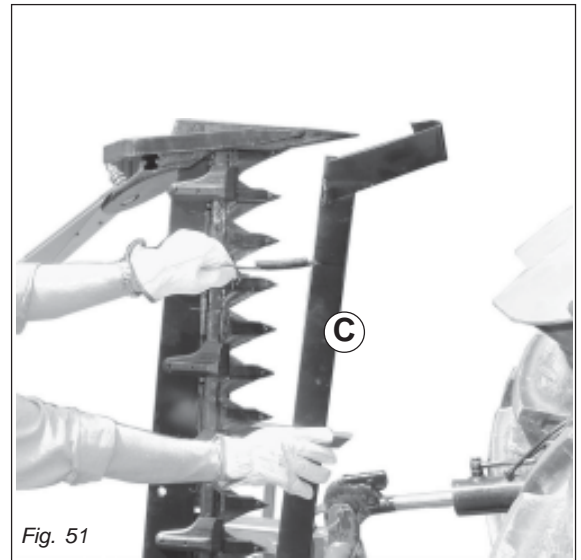

Fig. 51
- Fit the guards over the cutters and outer skid (C Fig. 51)